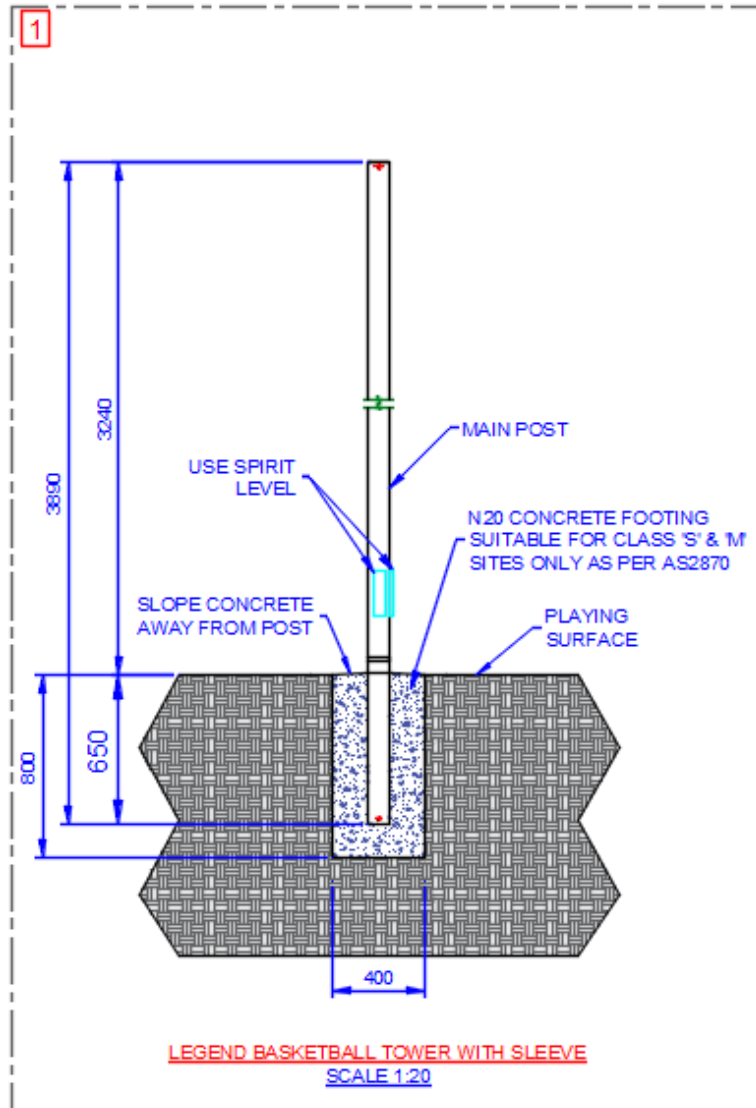

Figure 1: LEGEND Footing Detail
- *Please refer to Figure 1 for further details. The post must be installed in a specific orientation as shown in the Figure and it is the Installer/Contractor responsible for ensuring that.*